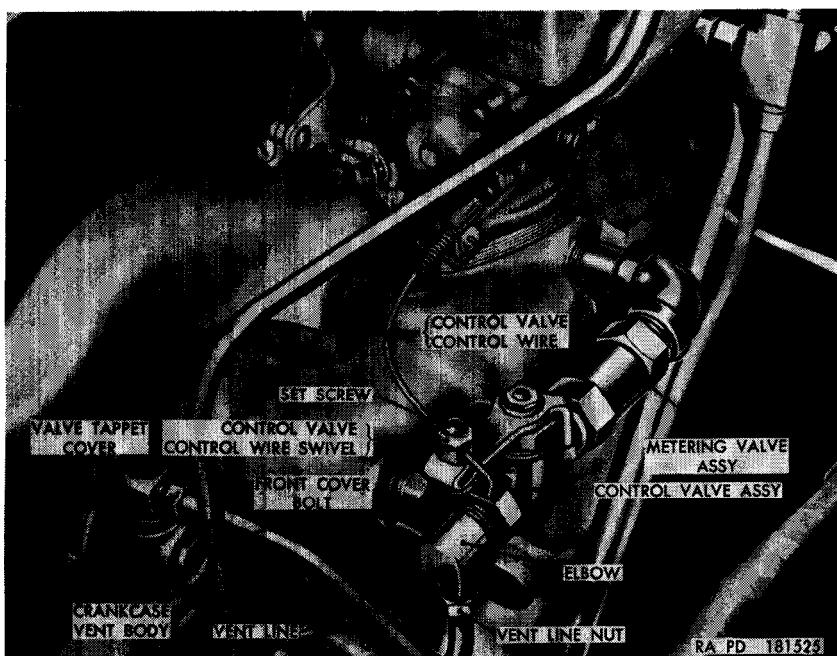

Figure 27. Crankcase control valve and vent metering valve assemblies—installed.
a. Removal (fig. 27).
- (1) Unscrew the vent line nut from the elbow on the crankcase control valve assembly. Remove the front cover bolt securing the crankcase vent body and valve tappet compartment cover to the cylinder block. Remove the vent body and gasket with the elbow and the vent line connecting the compartment cover and the elbow on the control valve assembly. Discard gasket.
b. Crankcase Control and Vent Metering Valve Assemblies (fig. 27).
- (2) Unscrew the nuts at each end and remove the fuel and vacuum pump-to-intake manifold line (C).
- (3) Remove fuel and vacuum pump-to-tee line (D) by unscrewing nut at each end of the line.
- (4) Loosen the set screw securing the crankcase control valve control wire (N) to the crankcase control valve control wire swivel (F) and pull the control wire out of the swivel.
- (5) Remove the vent line (M) between the crankcase control valve assembly (G) and the crankcase vent body (fig. 27) by unscrewing nut at each end of the line.
- (6) Remove the crankcase control valve and vent metering valve assemblies (G and E) by unscrewing the pipe nipple from the intake manifold.
- (7) Remove the nut from the bolt (K), and nut (L) from the stud, connecting the exhaust pipe to the exhaust manifold.
- (8) Remove the four nuts (B) one at the front of the intake manifold; one at the rear of the intake manifold; and two, with flat washers, at the center securing the intake and exhaust manifold assembly to the cylinder block. Remove the three nuts (A) securing the exhaust manifold to cylinder block.
- (9) Slide the intake and exhaust manifold assembly away from the block and off the studs and lift out of the vehicle.
- (10) Remove the four lockwasher screws (J) attaching the intake and exhaust manifolds (Q and R). Remove heat control valve spring stop (H). Remove gasket between the intake and exhaust manifolds and clean the contacting surfaces. Also clean the gasket contacting surfaces on cylinder block and intake and exhaust manifold assembly.
- (4) Insert a new exhaust pipe flange gasket between the pipe flange and the exhaust manifold flange. Lift the exhaust pipe up and over the stud in the exhaust manifold flange and screw $\frac{3}{8}$ -inch nut (L) onto the stud part way. Insert $\frac{3}{8} \times 1\frac{1}{2}$ bolt (K) through the exhaust manifold flange, gasket, and pipe flange and screw on $\frac{3}{8}$ -inch nut. Tighten nut (L) and the nut on the bolt (K) with equal tension to secure exhaust pipe to the manifold assembly.
- (5) Install the crankcase control valve and vent metering valve assemblies (G and E) on intake manifold by screwing the pipe nipple into the manifold to the position shown.
- (6) Insert the crankcase control valve control wire (N) through the crankcase control valve control wire swivel (F) and tighten the set screw securing wire to swivel. Position the vent line (M) between the crankcase control valve and the crankcase vent body (fig. 27). Screw nut into the fitting at both ends of the line and tighten.
- (7) Position fuel and vacuum pump-to-tee line (D) between the fuel and vacuum pump and the tee and tighten the two nuts.
- (8) Position fuel and vacuum pump-to-intake manifold line (C) between the fuel and vacuum pump and the intake manifold and tighten the two nuts.
- (9) Install carburetor (par. 129c).